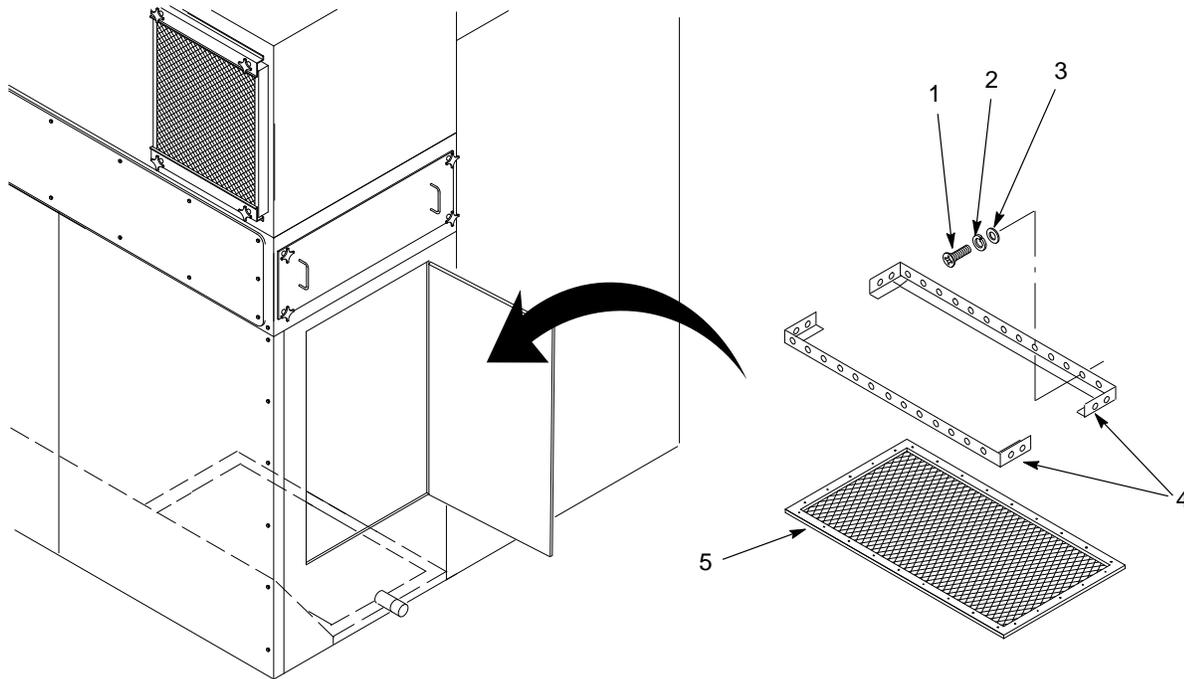

Figure 8-4 Waste Hopper Fluidizing Plate Replacement
1. See Figure 8-4. Empty as much powder as possible from the waste hopper. Refer to *Emptying the Waste Hopper* in the *Maintenance* section for more information.
**NOTE:** The retaining angles (4) secure the fluidizing plate (5) to the bottom of the waste hopper.
4. Remove the M6 screws (1), lock washers (2), and flat washers (3) securing the retaining angles (4) to the fluid section.
5. Remove the retaining angles and fluidizing plate (5) from the waste hopper.